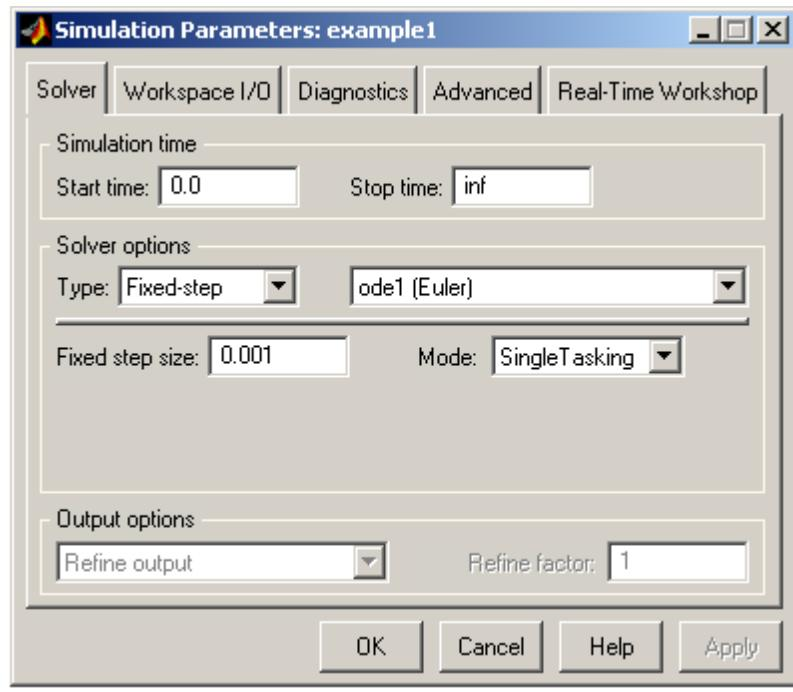

Figure 2.5: Simulation Parameter setting for real-time model
- Set the **Stop-Time** as ‘**inf**’. The simulation parameters should look like shown in Fig. 2.5